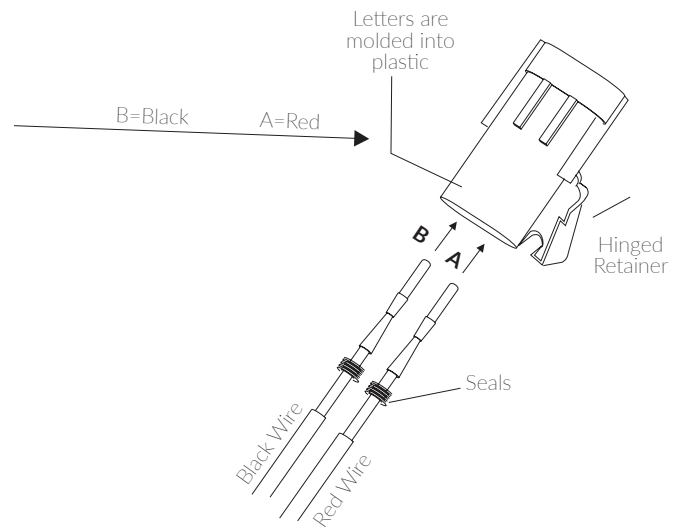

Figure 4-6
7. The connector is marked with an A and B. The A side is for the Red wire and the B side is for the Black wire. If wires are connected incorrectly, the lift will not operate correctly. See Figure 4-6.